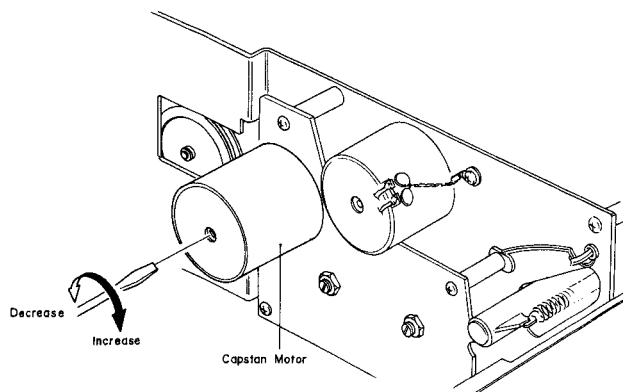

Fig. 4.3
- (1) Remove the Top Cover Ass'y referring to item 2.2.
- (2) Connect a Frequency Counter to the Output Jack.
- (3) Load a 3 kHz Speed Wow/Flutter Tape (DA09006A) and play it back.
- (4) Referring to Fig. 4.3, adjust the Tape Speed Adjustment Volume (VR501) incorporated in the Capstan Motor to obtain 3,000 Hz on the Frequency Counter.